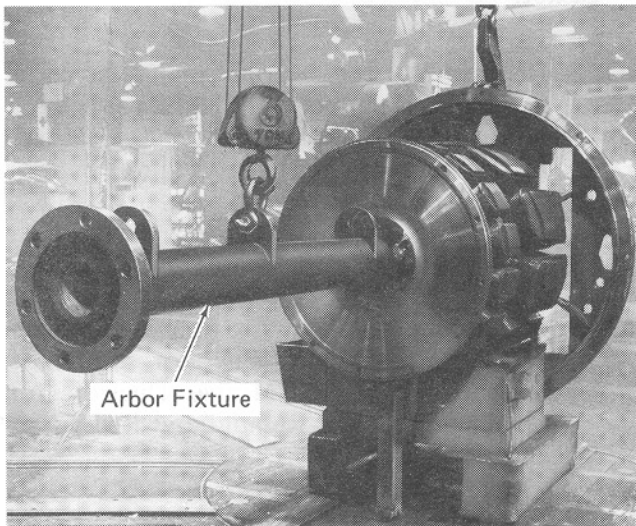

Fig. 6 - Application Of Arbor Fixture
7. Apply an arbor fixture to spider bore of D14 rotor, Fig. 6. Attach crane cable to end of fixture.